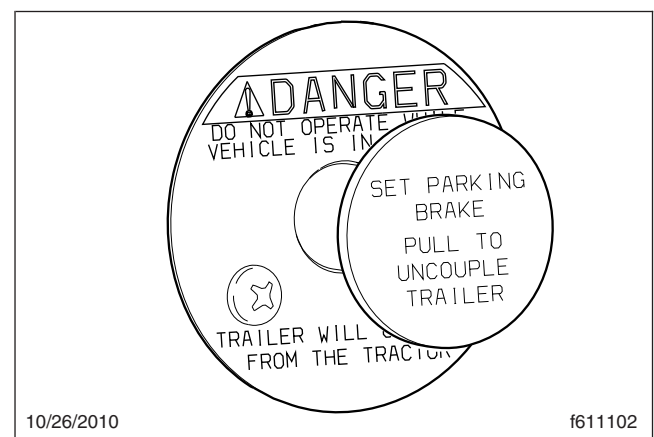

Fig. 17.7, Air-Actuated Kingpin Release Valve
An air-actuated kingpin release valve is optional with any fifth wheel. See Fig. 17.7.
2. Pull and hold the kingpin release valve (**Fig. 17.7**) until the kingpin lock mechanism opens and locks in place.